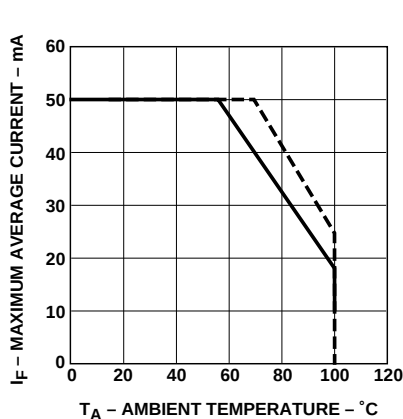

Figure 1. Maximum forward current vs. ambient temperature. Derating based on $T_{JMAX} = 130^\circ\text{C}$.
- Derate linearly as shown in Figure 1.